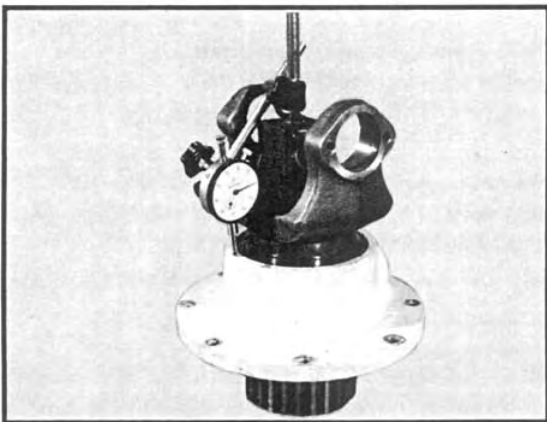

Fig 41
5. Install a dial indicator as depicted in Figure 41. Lift upward on the carrier assembly and note the shaft end float on the dial indicator. If the end float is not within specification (.003 to .008 in.), it will be necessary to disassemble the shaft following Steps 2 and 3 under "FRONT OUTPUT SHAFT DISASSEMBLY" above. Measure the thickness of the original spacer ring and select a new ring to provide end float within specification. See Item 7 on P.10 in the parts manual for a list of available spacer rings. Be sure to recheck the shaft end float after the new spacer ring is installed.